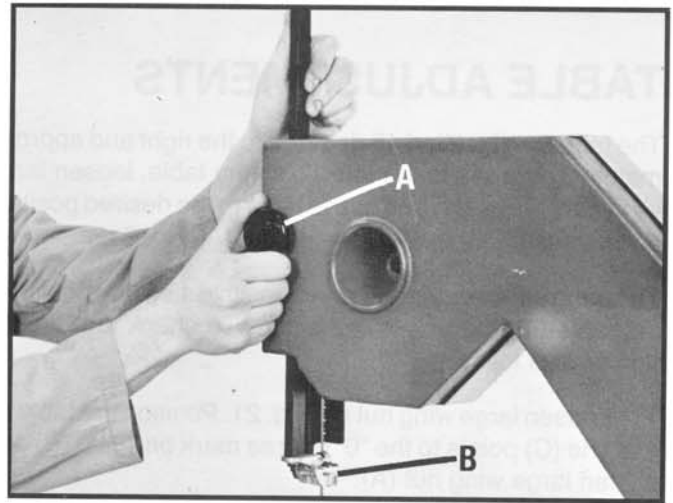

Fig. 18
The upper blade guide assembly (B) Fig. 18, should always be set about 1/8" above or as close as possible to the top surface of the workpiece being cut. Loosen knob (A) Fig. 18, and position the guide assembly (B) to the desired position.